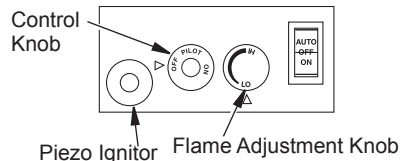

Figure 12 - Setting Control Knobs
to the OFF position (see Figure 12).
5. Wait five (5) minutes to clear out any gas. If you then smell gas, STOP! Follow "B" in the safety information in column 1. If you don't smell gas, go on the next step.
6. Press in and turn control knob counterclockwise to the PILOT position. Press in control knob for five (5) seconds (see Figure 12).